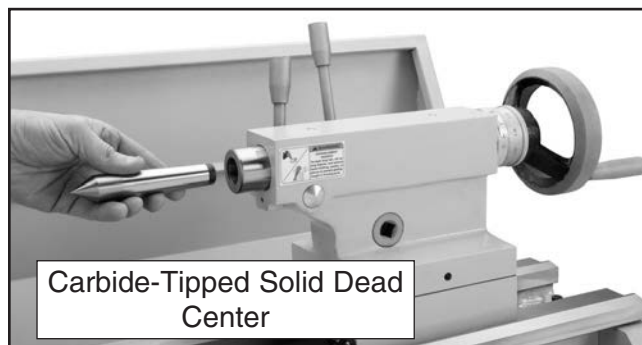

Figure 34. Inserting a carbide-tipped dead center in the tailstock.
2. Feed the quill out about 1", wipe clean and insert the center into the quill bore (see **Figure 34**). To help prevent wear, place a dab of grease on the point of the center.